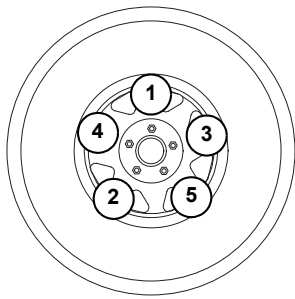

Figure 3-11. Lug Sequence
7. Check the wheel lugs. Tighten or replace any lugs that are loose or missing. If a tire has been removed for axle service or replaced, tighten the lugs in the order shown in Figure 3-11 to the following specifications: